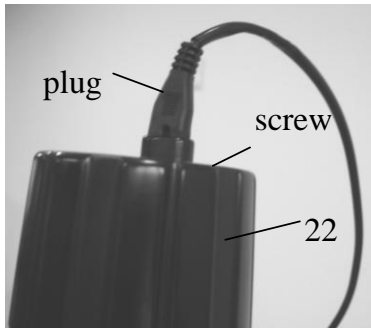

Fig.25
Turn the main power switch (8) off .pull out the plug attached to the lamp house, loosen the two screws and remove the lamp cap from the illumination part (A)(Fig.25)